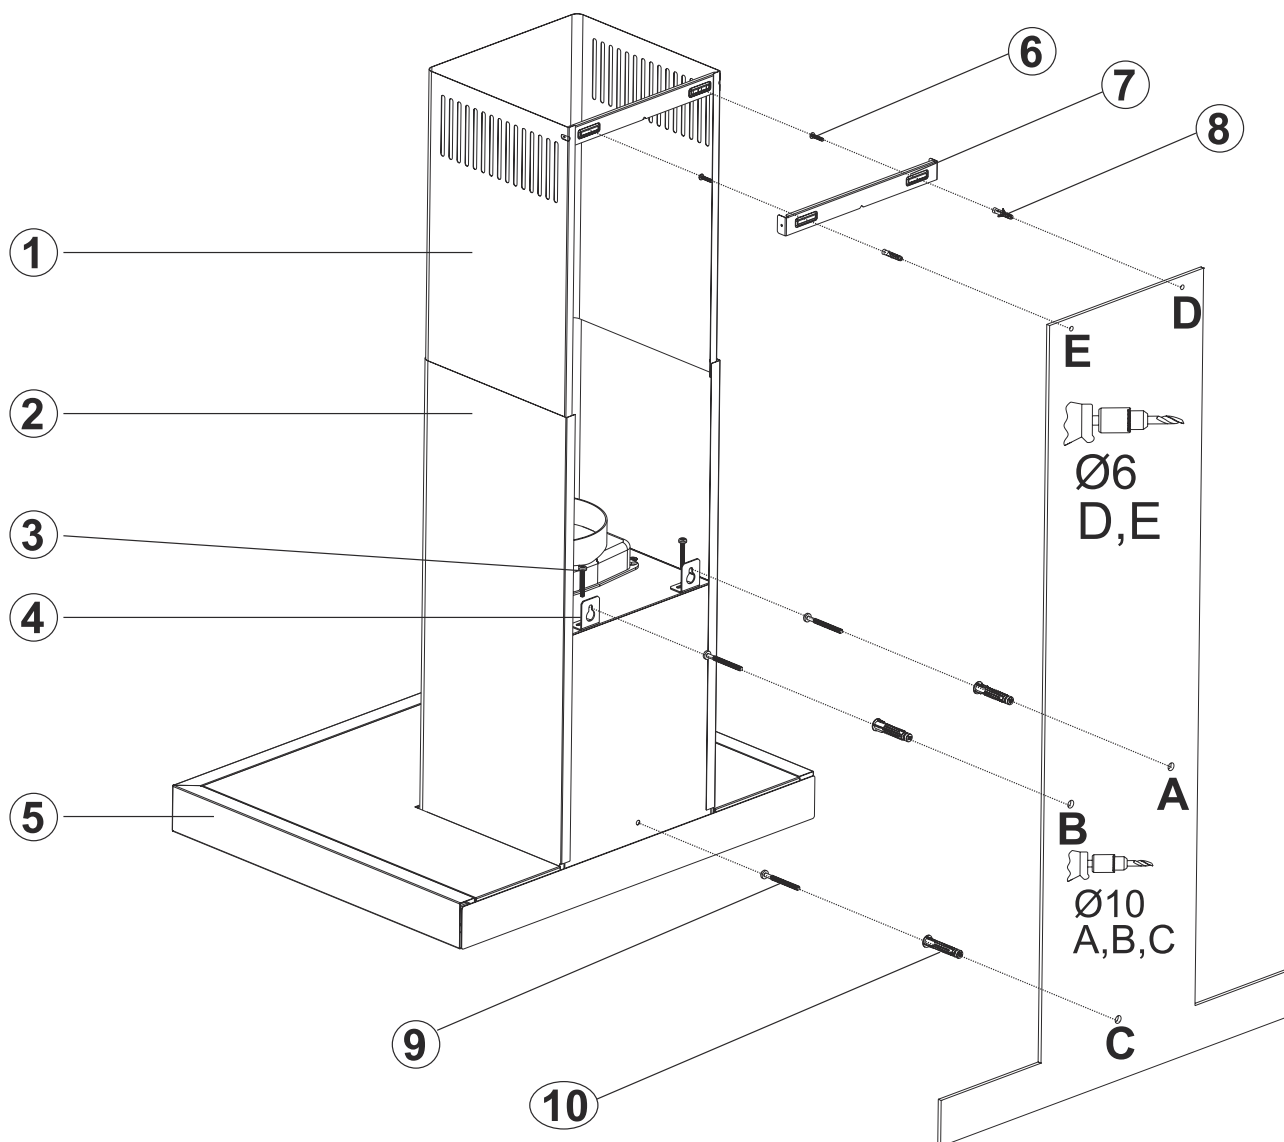

Fig. 11
2. ➤ Affix the assembly pattern on the wall at the specified height (See the minimum and maximum distances intended for the worktop, in the assembly pattern) and drill holes A, B and C with the dimensions specified in the template (Fig. 11).
- 3.** ➤ Insert Ø 10mm wall plugs into the holes drilled as A, B, C, D, and screw down the 5.5 x 60 screws (9) at the points A + B, in such a way as to remain 5mm space between the screw head and the wall (Fig. 11).
- 4.** ➤ Affix the hanging plates of the cooker hood on the body of the cooker hood with M5x35 bolt (3) (Fig. 11).
- 5.** ➤ Hang the hood from its hanging plates on the wall at points (A, B). If the hood is not parallel, position its shape to parallel by tightening or loosening M5x35 screw (3).